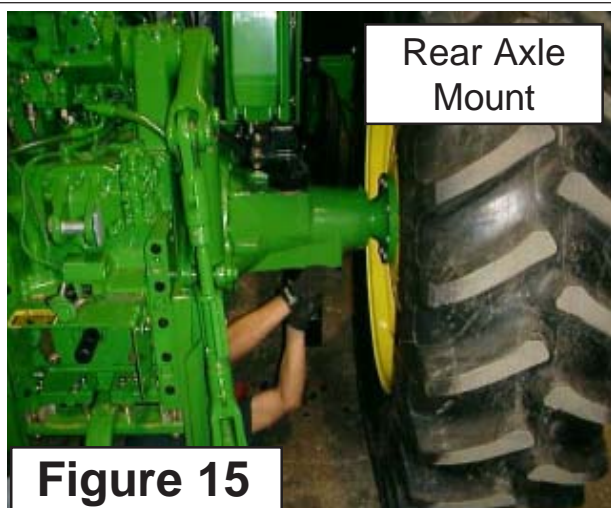

Figure 15
8. Install first Frame Rail to Tractor & Rear Axle. The Frame Rails Mount to the rear Axle of Tractor. The RH Side has Longer Bolts than the LH Side does. This is because the Axle Mounted Boom Rest will also mount here using some of the same Bolts. For now use shorter Bolts to hold Frame Rail up to Axle while you finish the Pre-Installation. The Bolts that were removed from the Tractor when you mounted the Front Frame Rail Supports will work well for this (**See Figure 15**).